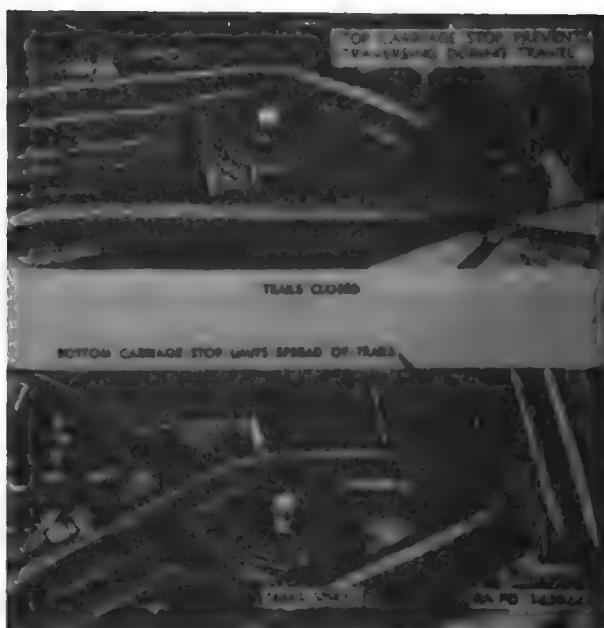

Figure 135. Stops to prevent top carriage traverse during travel and stops to limit spread of trails in firing position.
- (1) The two trails (fig. 2) are tapered, welded steel, box-type girders hinged to the bottom carriage. In traveling position, the trails are closed and locked by the trail lock and the weapon is coupled to the pintle of the prime mover by the lunette (fig. 48). In firing position, the trails are unlocked and spread, trail spades are attached under the rear ends of the trails (fig. 51), and the spades are emplaced in pits dug in the ground. When fully spread, each trail forms an angle of 30° with the center of the carriage. Bottom carriage stops (fig. 135) are provided to limit the spread of the trails, and top carriage stops prevent traverse of the weapon during travel. Stops are also provided on the bottom carriage which causes the